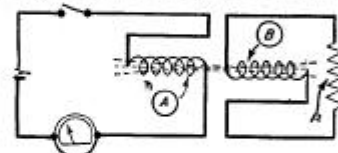

Fig. 41.—Circuit illustrating mutual induction.
**Mutual Induction.**—Now consider a coil A, Fig. 41, joined to a battery and switch and placed near or *inductively coupled* to a coil B across the terminals of which is joined a resistance R. When the switch in circuit A makes contact the current takes a fraction of a second to reach a maximum steady value. The magnetic field created by this current cuts the coil B and